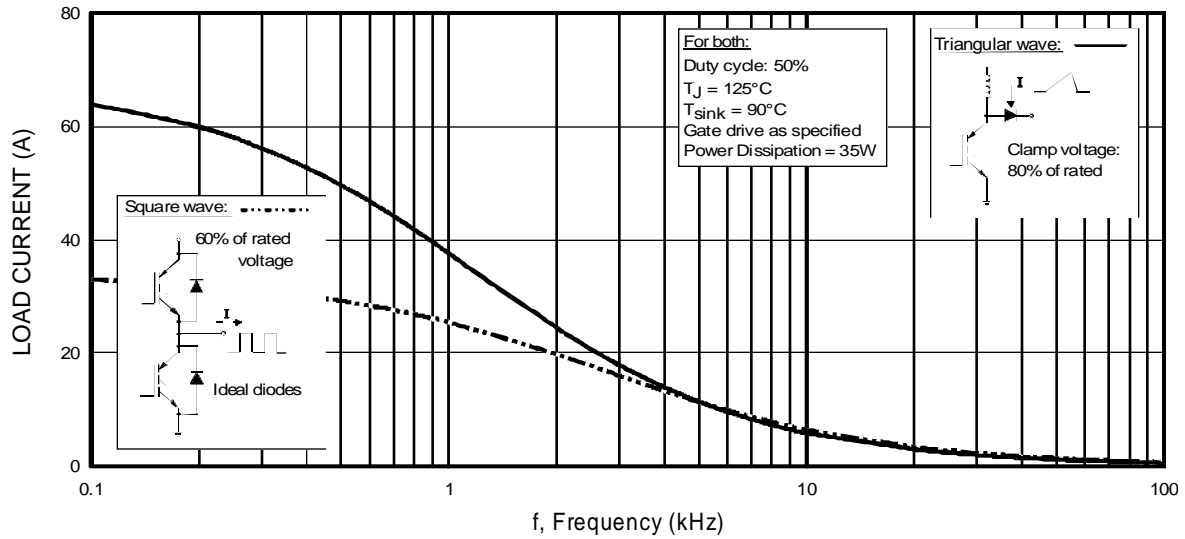

Fig. 1 - Typical Load Current vs. Frequency
- Optimized for line frequency operation (to 400Hz) See Fig. 1 for Current vs. Frequency curve